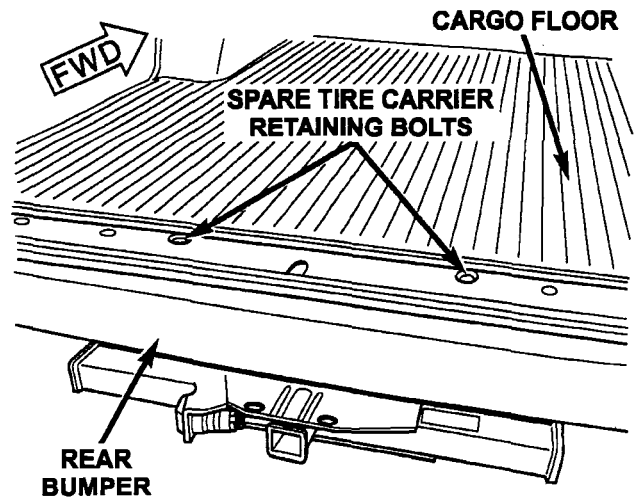

Figure 4
- a. Remove the bolts for the spare tire hold down (Figure 4).